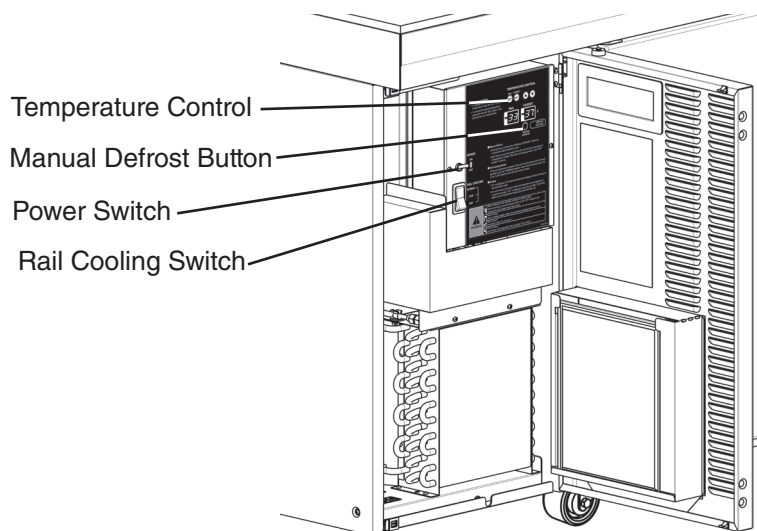

Fig. 8
5. Make sure the power switch is in the "OFF" position before plugging in or unplugging the unit to reduce the risk of electric shock. The power switch is located behind the front panel. See Fig. 8 in "I.E. Accessing the Controls."
The controls are located behind the front panel. See Fig. 8. To open the front panel, grip the outer edge of the front panel near the bottom and top and pull open approximately 1/2 inch (13 mm) until it is disengaged. To remove the front panel, swing the panel open completely and lift up approximately 1/2 inch (13 mm).